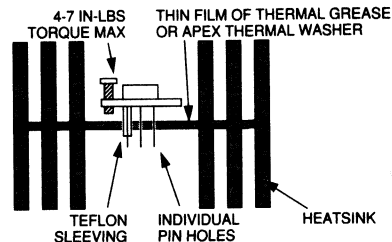

FIGURE 12. MOUNTING CONSIDERATIONS
- 2) Do not over torque the case. Recommended mounting torque for the TO-3 8-Pin package is 4-7 in-lbs (.45-.79 N-m) and for the MO-127 Power Dip™ packages (PD10 AND PD12) is 8-10 in-lbs (.90-1.13 N-m). Refer to Figure 12. Apply a thin, uniform film of thermal grease or an Apex thermal washer between the case and heatsink. Apply small increments of torque alternately between each screw when mounting the amplifier.